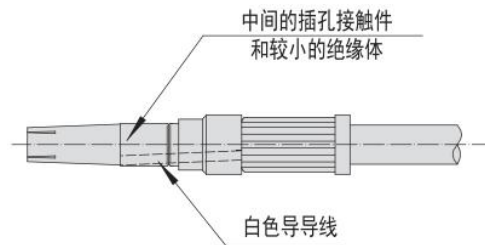

Figure 3.5
⑤ As shown in Figure 3.5, proceed as follows: